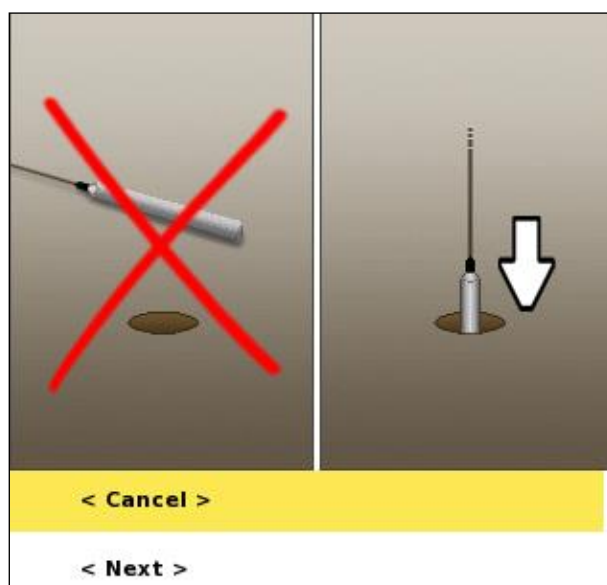

Figure 84 First Check level dialog
- The first dialog (Figure 84) instructs the user to lower the probe into the well